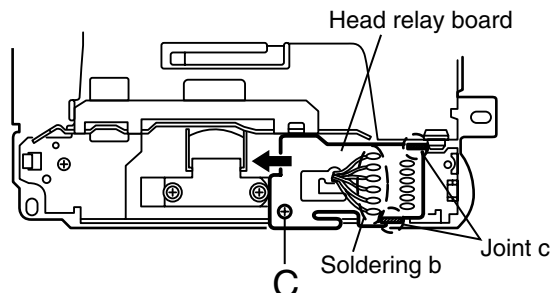

Fig.4
■ Removing the head relay board (See Fig.4)